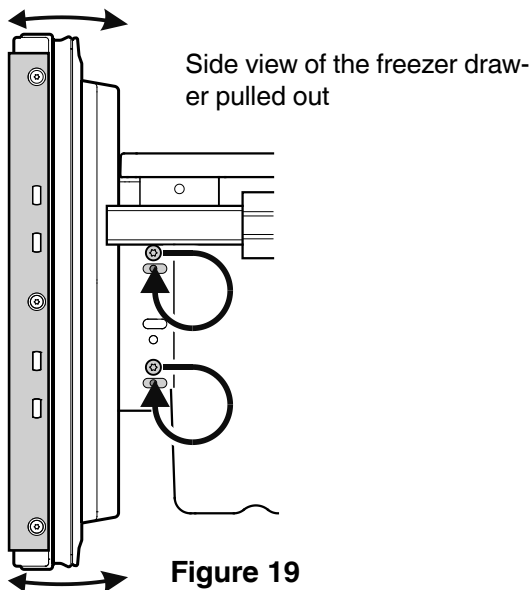

Figure 19
To prevent the appliance from tipping forward the leveling feet (1) (Figure 19) must have contact with the floor.
Adjusting the front of the drawer - Figure 19